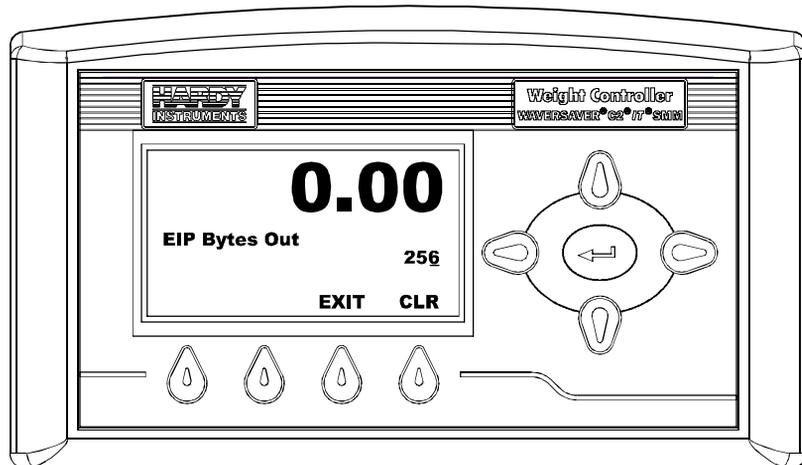

FIG. 133 EIP BYTES MENU
Step 15. Press the Enter button. The EIP Bytes Out menu appears. (See Fig. 133)